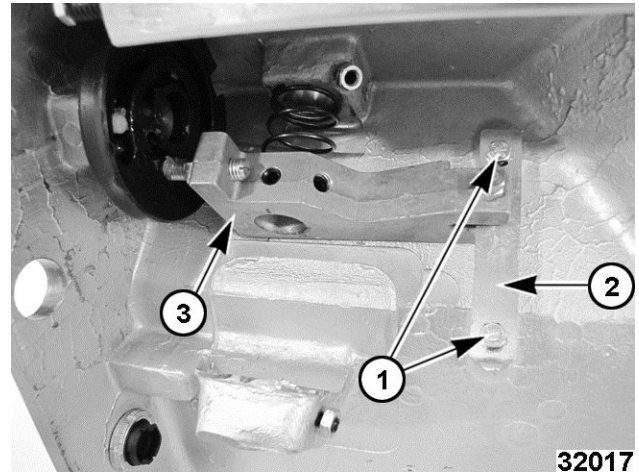

Fig. 31
8. Remove screws (1, Fig. 31).
9. Remove the plate (2, Fig. 31).
10. Remove index support (3, Fig. 31).